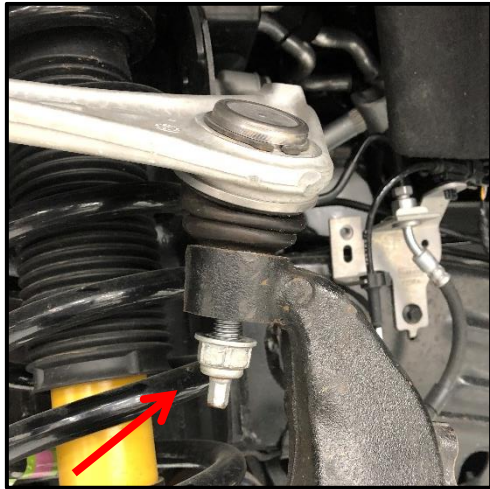

Figure 6
- Support the lower control arm / knuckle with a jack stand and loosen upper ball joint nut using a 21mm socket, but do not remove at this time. **(Figure 6).**